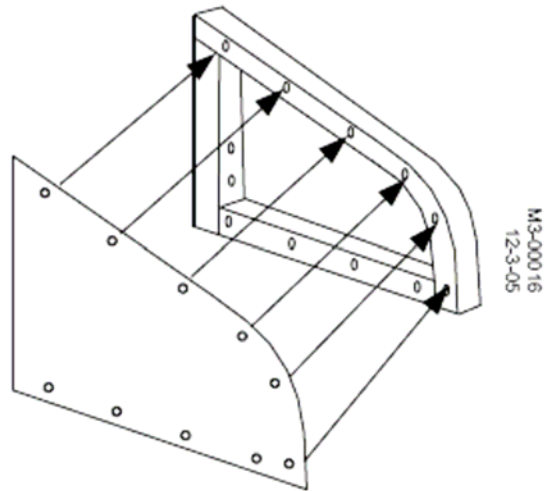

Figure A-3: Attach side plate and skin to frame
3. Attach canopy side plate, with skin, to the mounted frame work. See Figure A-3.